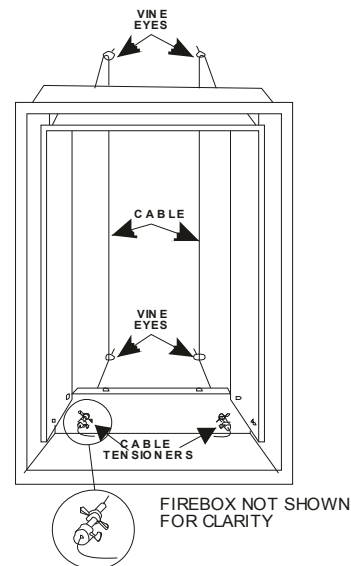
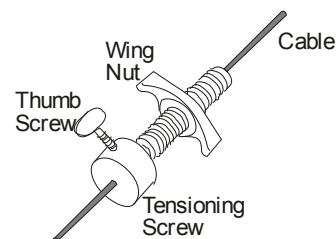

Figure 43
Figure 44
2. Place the Freedom Surround/firebox on the prepared base and temporarily fix in position using the cable fixing kit. Feed the cable through the two top holes of the Freedom Surround and then through the vine eyes and then back into the bottom holes of the Freedom surround (see **Figure 43**). Thread the cable through the tensioning screw from the threaded end and slide the screw all the way into the hole in the Freedom surround. Pull the cable tight and tighten the thumb screw (see **Figure 44**). Do not cut the cable.